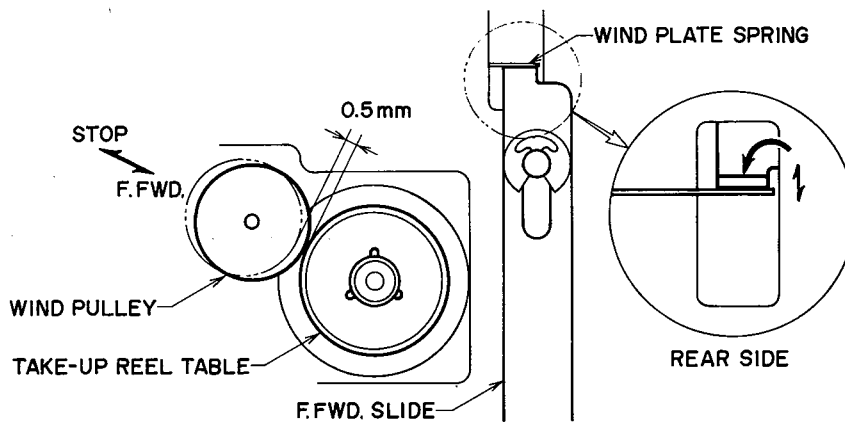

Fig. 5
4. FAST FORWARD SLIDE POSITION ADJUSTMENT (Refer to Fig. 5)